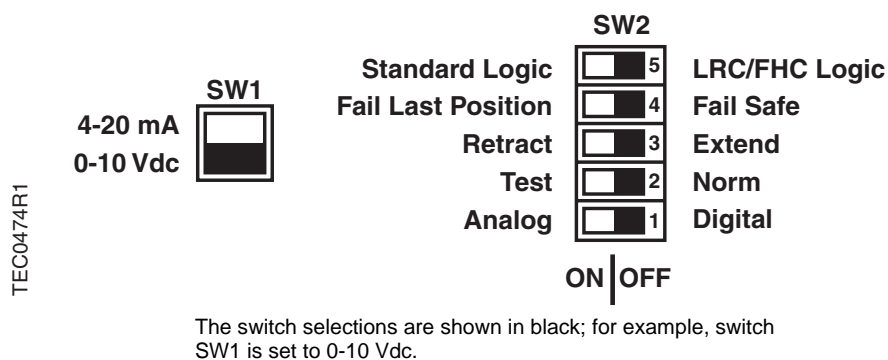

Figure 3. Switch Settings for the AO-E Module.
1. Make sure the switch settings for switches SW1 and SW2 on the AO-E module(s) are set correctly. Refer to *Figure 3*.